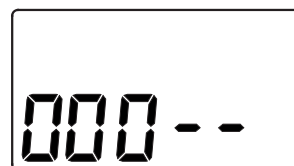

FIG. 27
1. Press and hold the SELECT button until the screen in Figure 27 is displayed.